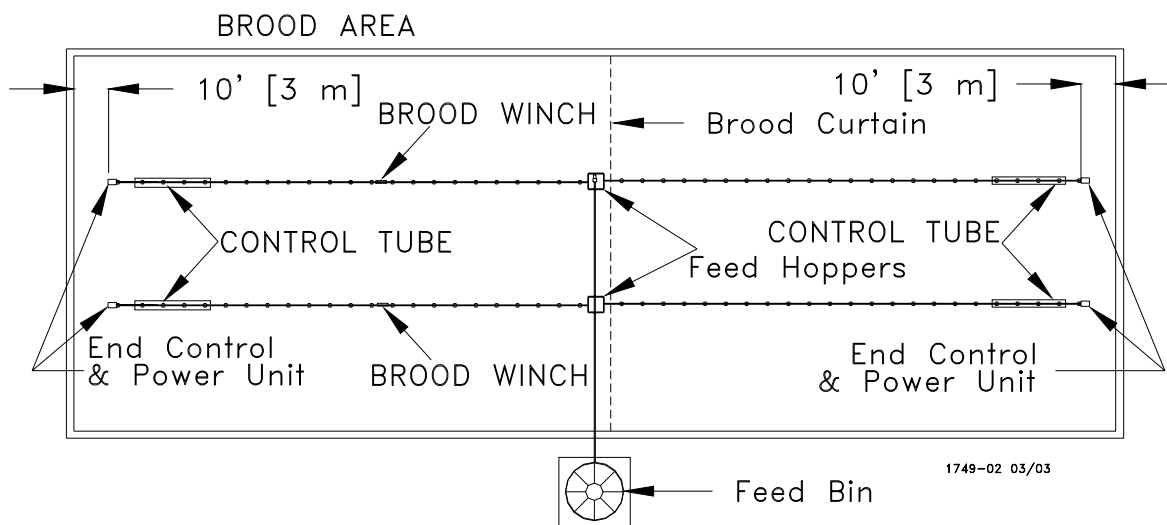

Figure 2. Component location diagram for systems over 400 feet [122 m]. (Top View).
- B. Systems with line lengths over 400' [122 m] should be split in the center, as shown in “**Figure 2. Component location diagram for systems over 400 feet [122 m]. (Top View).**” on page 8. This will reduce auger running time and eliminate the need for Mid-Line Controls for partial house brooding.